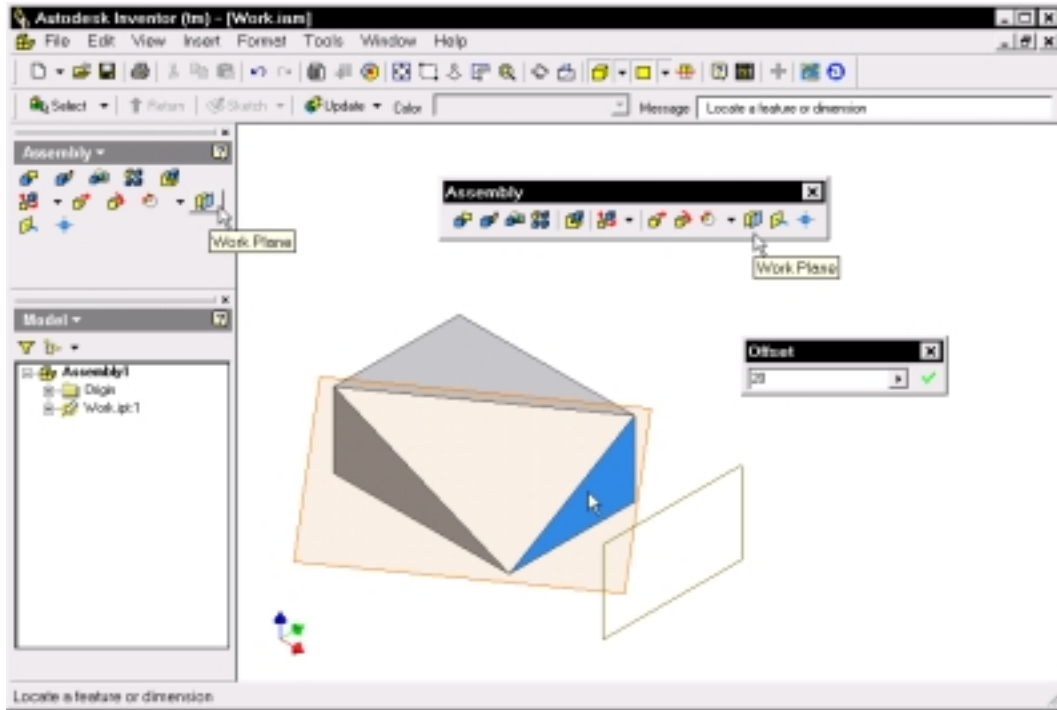

Figure 3-49
9. Select the face indicated in Figure 3-49 and drag the cursor to construct a work plane offset to the selected face.